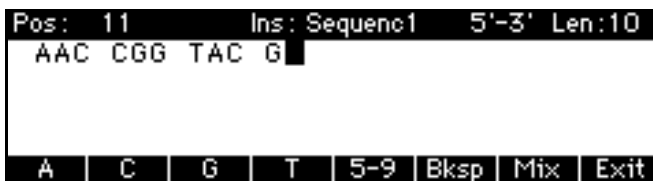

Figure 2-18 Sequence Edit Screen (Model 8909)
6. Enter your sequence by pressing the entry mode keys (see Figure 2-18). Refer to Table 3-4 for a description of all entry mode keys. For mixed site entry, see "Mixed Site Entry" on page 3-16.
The sequence is displayed on the screen (see Figure 2-18).